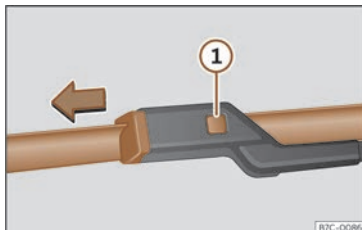

Fig. 145 Changing the windscreen wiper blades
- Press and hold release button >>> Fig. 145 1 and pull gently on the wiper blade in the direction of the arrow.